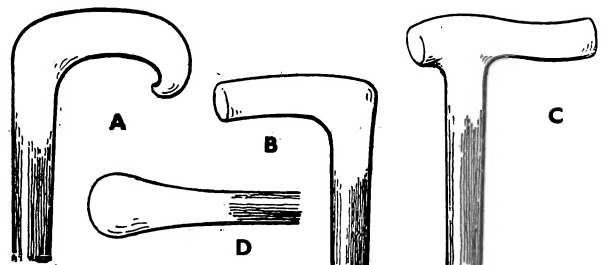

FIG. 4. VARIOUS HANDLES CUT ACCORDING TO THE MASS OF WOOD AVAILABLE FOR SHAPING.
Handle.—The shape of this depends on the size and form of solid wood at the root. If large, as in Fig. 1, we can aim at the characteristic shepherd's crook. If shorter in length, the flattened crook (A, Fig. 4) is ideal for the ordinary walking stick. Sometimes the root will permit only of the straight handle (B), or, if there is a projection at both sides, we can